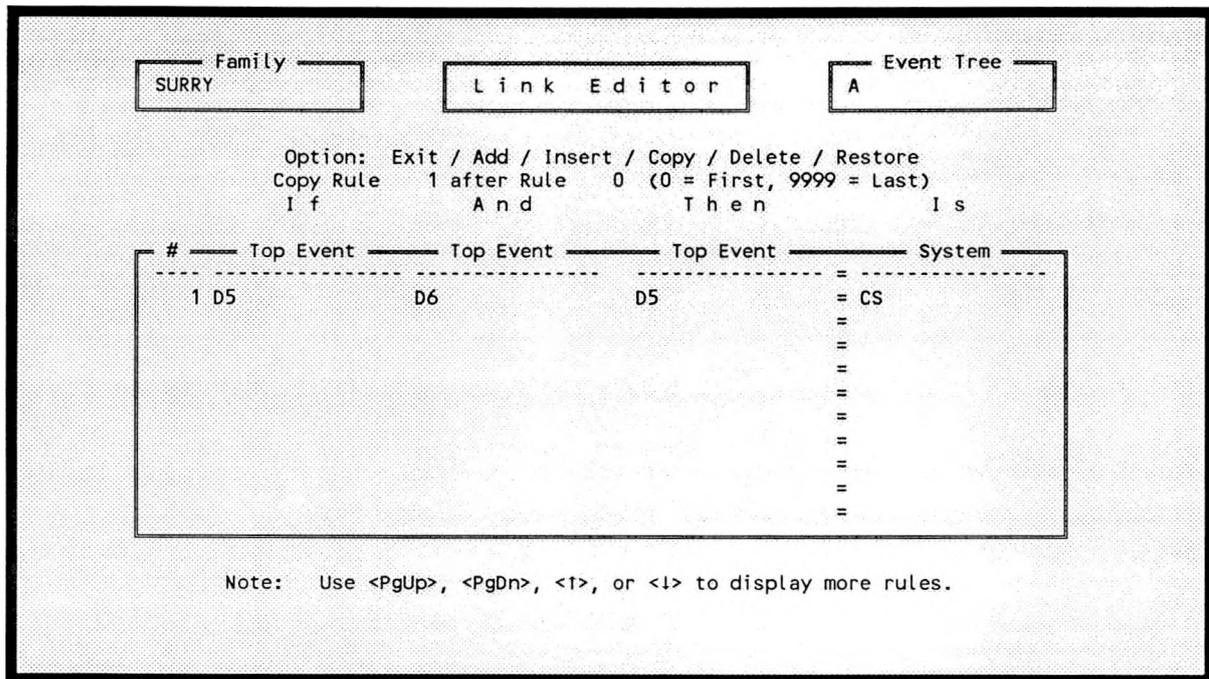

Figure 145. Copy linkage rules menu.
6.3.3.4 Copy. This option copies one rule after another. Figure 145 contains the copy menu. The rule number of the rule closest to the cursor will be in the first blank, but you may enter any other existing rule in its place. To copy the desired rule enter an existing rule in the second blank and a copy of the first rule will be placed after the second rule.